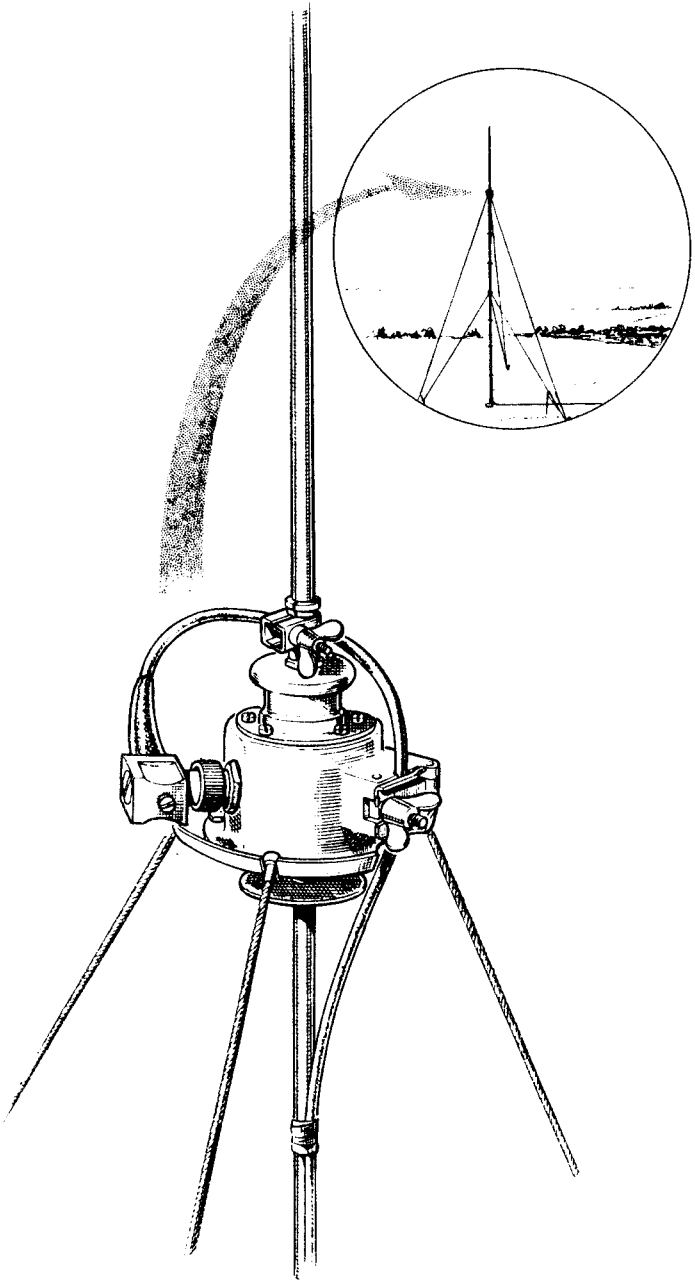

FIG. 1. ELEVATED AERIAL.
- (b) The three upper mast stays are replaced by the three stay assemblies 9-ft. 6-in. + 45-ft. 6-in. which form part of the elevated aerial (see Figs. 1 and 2, also Section 2 on page 1).
- 5.4 Fit the socket at the end of the Cable Assembly 50-ft., other than the end to which the Coupler, Plug and Chain Assembly is attached, to the co-axial plug on the mounting and tighten the locking ring. (See Fig. 1).
- 5.5 Unscrew and remove the wingnut and open the hinged member of the clamp. Pass the connector around the mounting and, leaving a small loop, insert the connector into the clamp. Close the hinged member, replace and tighten the wingnut, as shown in Fig. 1.